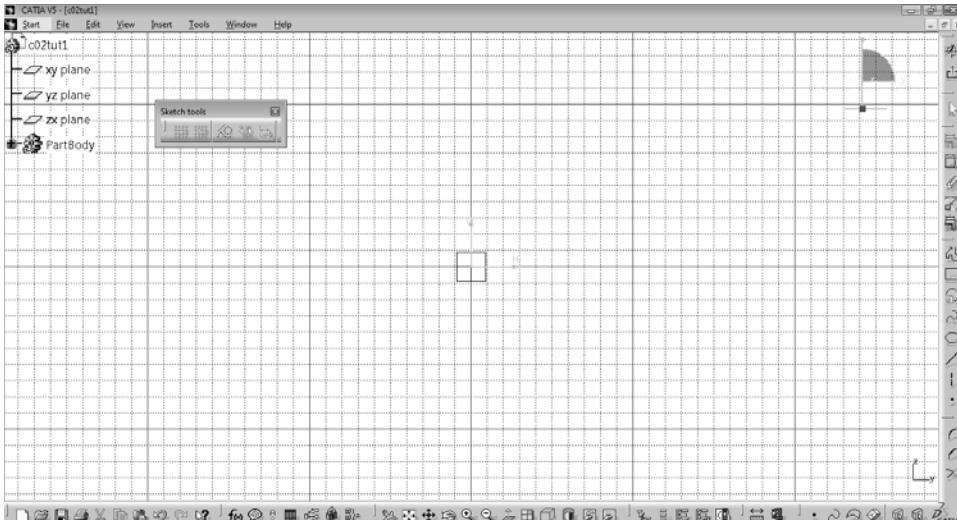

Figure 2-35 The **Sketcher** workbench screen
6. Choose the **Sketch** tool from the **Sketcher** toolbar and then select the **yz plane** from the Specification tree as the sketching plane; the **Sketcher** workbench screen is displayed, as shown in Figure 2-35.